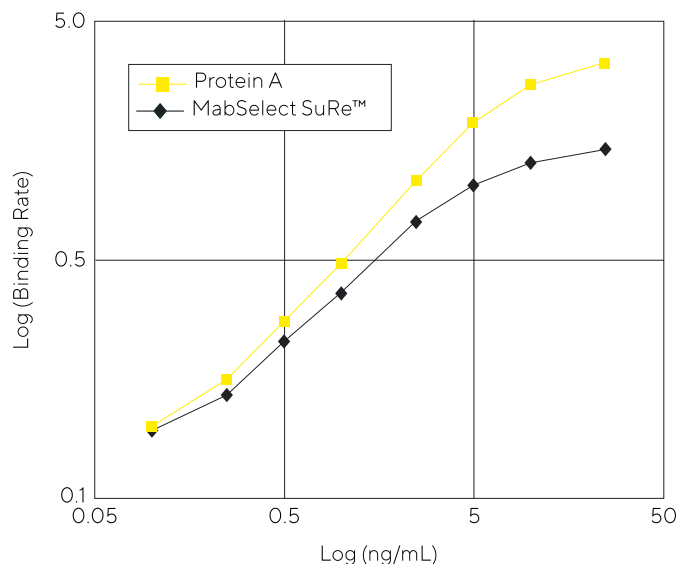

Figure 3: Comparison of standard curves for provided Protein A Standard and MabSelect SuRe™.
- 1. Selection of Protein A Standard:** The Protein A standard provided in the kit is unconjugated Pierce™ Recombinant Protein A (Thermo Scientific #21184). It functions similarly to native Protein A and can be used to accurately quantitate similar recombinant Protein A constructs. An important exception is MabSelect SuRe™ from GE Healthcare. MabSelect SuRe™ has significantly modified structure compared to more natural recombinant Protein A constructs, and is recognized differently by Protein A antibodies. These differences can result in quantitation inaccuracies against the included Protein A Standard (Figure 3).